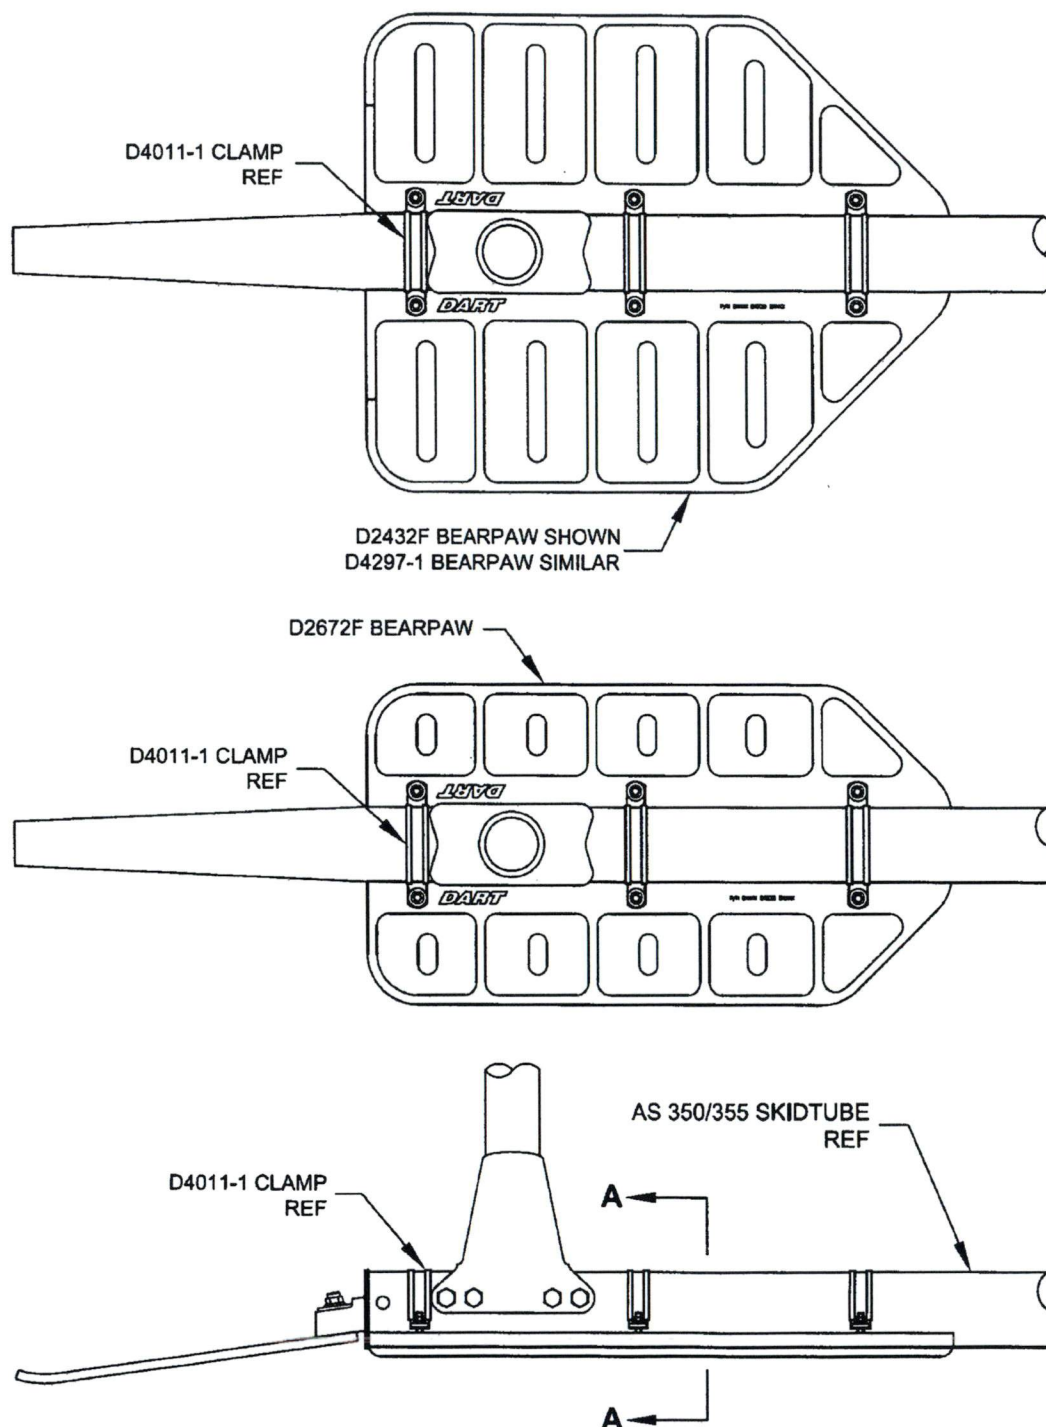

Figure 32-1: D350-578-011/-013/-021 Bearpaw Installation
- 32.2.4 Position D2432F/-3 (D350-578-011/-015) or D2672F (D350-578-021) or D4297-1/-3 (D350-578-013/-017) Bearpaw on the aft end of each skidtube as shown in Figure 32-1 or Figure 32-2.
- 32.3.4 Align the D3859-041 Wearplates with the holes in the bottom of the bearpaw. Position D2432F/-3 (D350-578-111/-115) or D2672F (D350-578-121) or D4297-1/-3 (D350-578-113/-117) Bearpaw on the aft end of each skidtube as shown in Figure 32-1 or Figure 32-2.